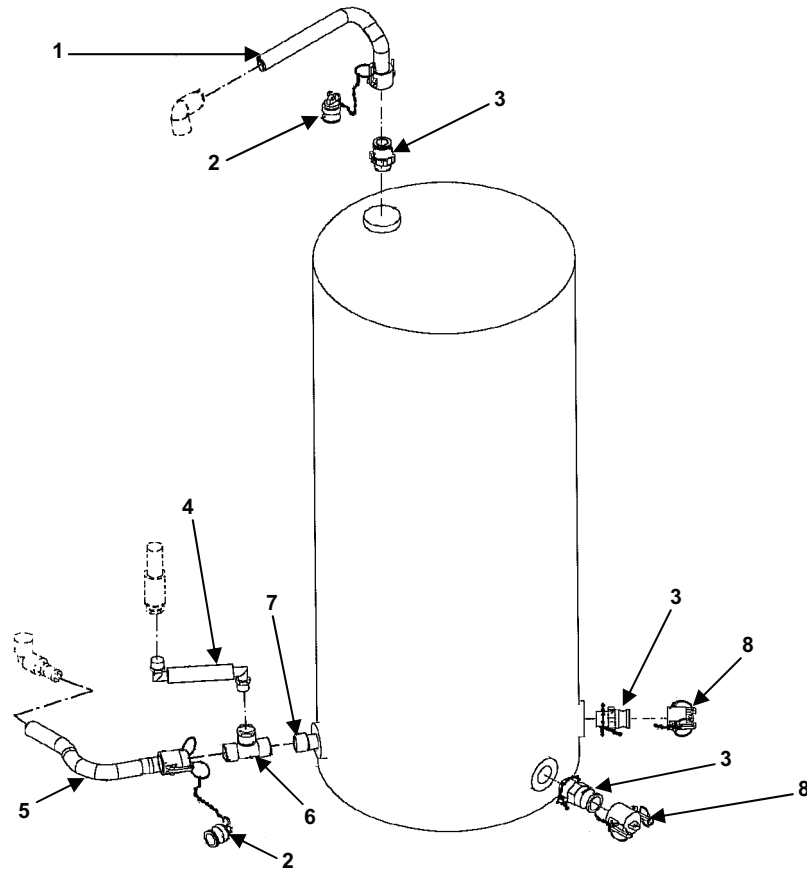

Figure 2. Filtrate Tank Piping.
1. Disconnect the vent hose (Figure 2, Item 1), level switch hose (Figure 2, Item 4) and inlet hose (Figure 2, Item 5).
2. Remove male camlock fittings (Figure 2, Item 3), tee fitting (Figure 2, Item 6), and adapter (Figure 2, Item 7) only if necessary.
3. Remove dust plugs (Figure 2, Item 2) and dust caps (Figure 2, Item 8) only if necessary.
1. Install the adapter (Figure 2, Item 7), and tee fitting (Figure 2, Item 6) and male camlock fittings (Figure 2, Item 3) on the filtrate tank if necessary.
2. Connect the inlet hose (Figure 2, Item 5), level switch hose (Figure 2, Item 4), and vent hose (Figure 2, Item 1).
3. Install the dust plugs (Figure 2, Item 2) and dust caps (Figure 2, Item 8) if necessary.